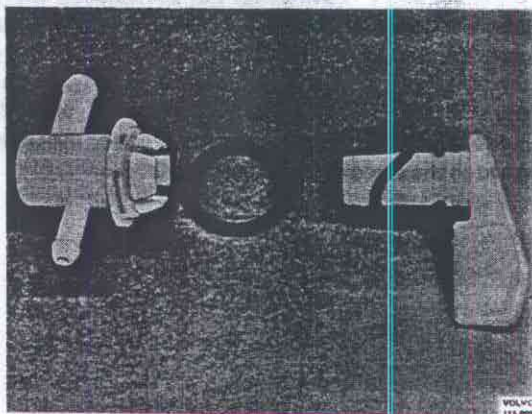

Fig. 46-12. Differential lock control
2. Replace the O-ring on the handle, Fig. 46-12, and coat it with a little grease.